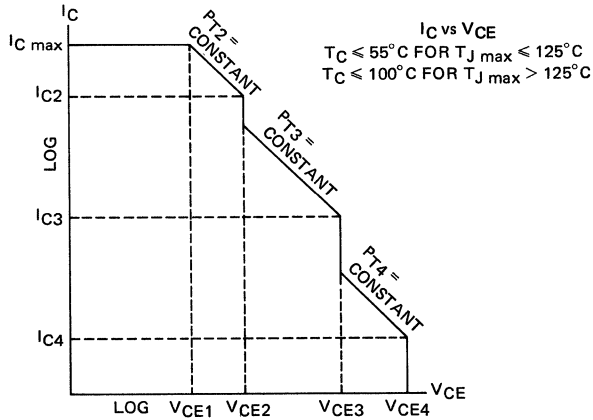

FIGURE 1
Figure 1 shows a Forward-Biased Continuous Safe Operating Area. For $V_{CE} \leq V_{CE1}$ the total power dissipation P_T is limited by $I_{C\max}$. At increasing V_{CE} the power dissipation capability of most transistors is decreasing gradually. Because the rate of decrease depends on the individual transistor, it is suggested to use P_{T3} for $V_{CE2} < V_{CE} \leq V_{CE3}$ and P_{T4} for $V_{CE3} < V_{CE} \leq V_{CE4}$.
For the area given in Figure 1, safe operation is assured with forward bias only (I_B is positive for npn transistors, negative for pnp transistors). High-current germanium transistors may have I_{CEO} leakage currents of 1 A or more at high junction temperatures. It is not recommended to operate transistors continuously at currents smaller than I_{CEO} except in a temperature-stable cutoff condition.
The number of test points is arbitrary. The Safe Operating Area in Figure 1 requires three (3) test points: I_{C2} at V_{CE2} , I_{C3} at V_{CE3} and I_{C4} at V_{CE4} . Test points should be selected using the principle that only the verified P_{Tn} is assured for V_{CE} 's smaller than the test point voltage V_{CEn} .